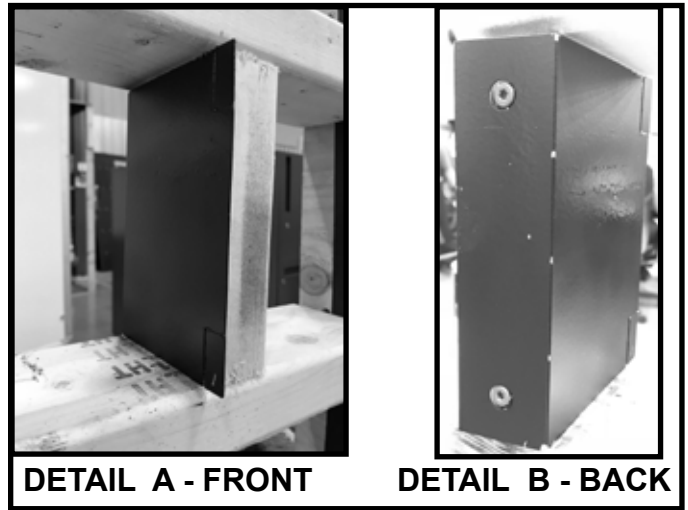

Figure 6.5 Finishing Trim Installed
3. Install the left and right finishing trim pieces on the framing on the sides of the discharge opening using construction screws or nails as shown in Figure 6.5, Detail A and B. Notice that the screws are installed on the back side of the framing. See Figure 6.15 and Figure 6.20.